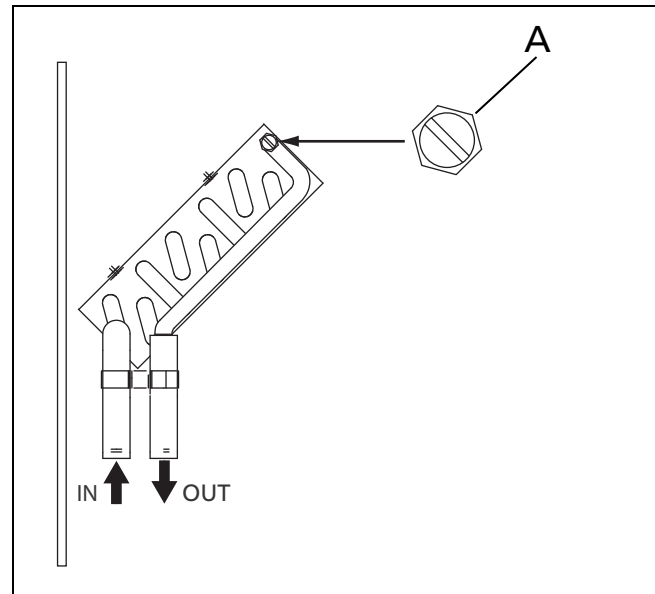

Figure 49. Coolant circuit bleeding
3. Open the air bleeder valve on the air-handler's exchanger. Refer to Fig. 49, item A. DO NOT leave this valve open unattended!